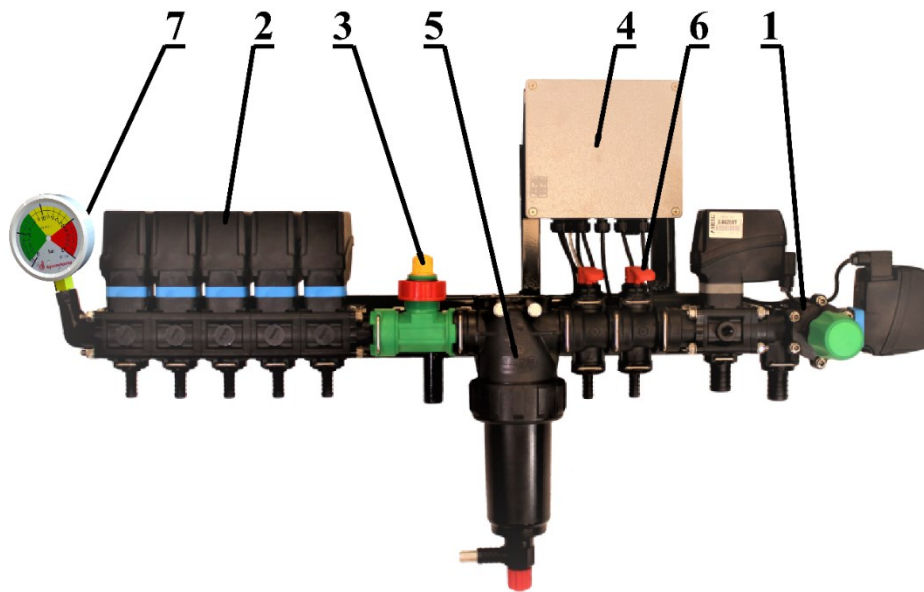

Figure 45
- The standard pressure regulator consists of only one assembly (Figure 45, Table 7):